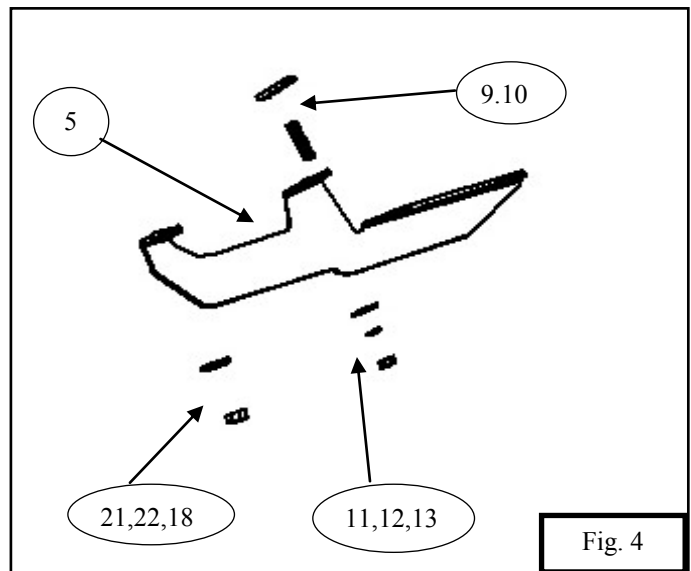

Fig. 4
6. Install loosely the front bracket using (1) M8 Flat Washer (item 11), (1) M8 lock washer (item 12) and (1) M8 hex nut (item 13) to the threaded stud. For the J-bolt install using (1) M10 flat washer (item 21), (1) M10 lock washer (item 22) and (1) M10 hex nut (item 18). (Figure 4)